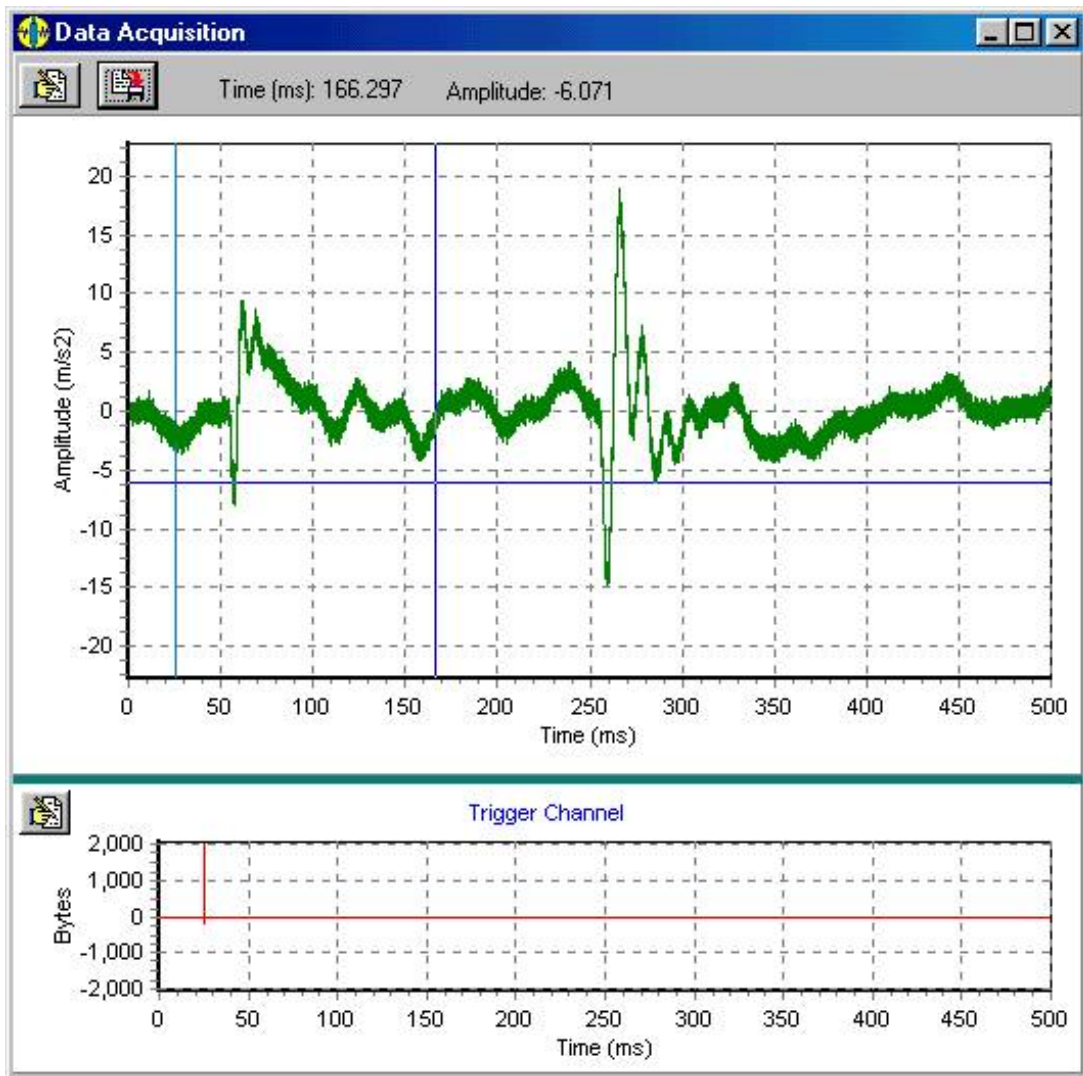

Figure 6. Example of seismic data acquired in the Data Acquisition menu.
(1) Begin Acquisition - The *Begin Acquisition* option is chosen once the data acquisition parameters have been specified. The user may abort the operation by pressing the *Stop Acquisition* push button. *SCI-DAC* stores the current data acquisition parameters in the *SC1dac.ini* file and these values become the default parameters. The captured seismic data appears as illustrated in Figure 6.
The trigger channel is displayed in the bottom chart of Figure 6. The trigger channel displayed contains both pre trigger and post trigger information. The top chart of Figure 6 contains the acquired seismic time. The light blue line illustrated in Figure 6 signifies the trigger time.